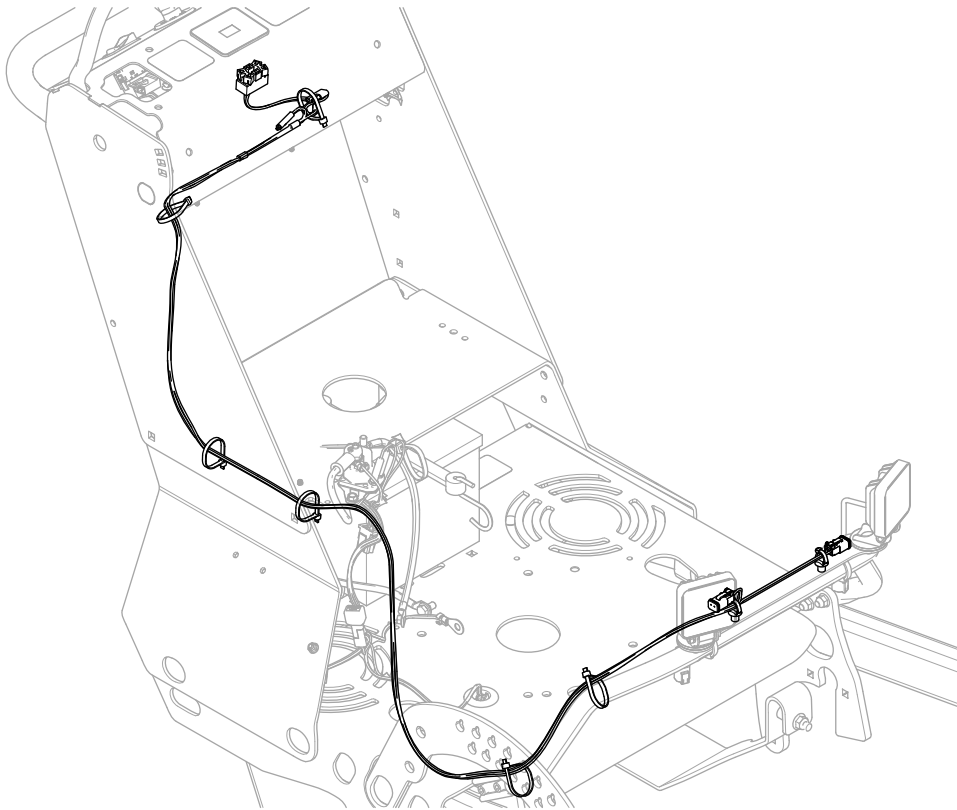

Figure 5
3. Route the wire harness along the right side of the machine as shown in Figure 5.
4. Secure the wire harness to the machine using the cable ties (Figure 5).